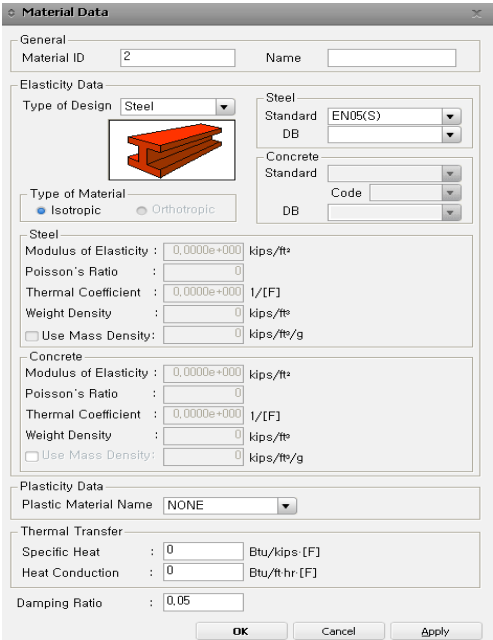

Figure 1.7 Material Data
3. Confirm “**1**” in the **Material Number** field of **General** (Fig.1.7).